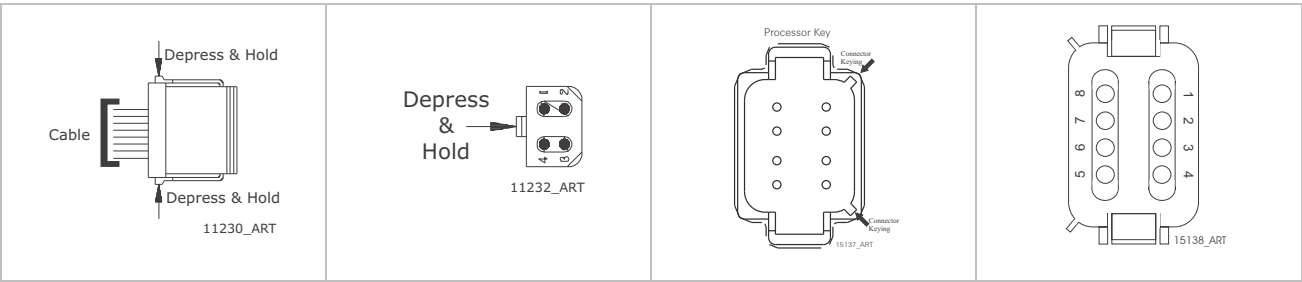

Figure 4-1: Harness Plug Keying
Prior to inserting the plug, pay close attention to the number of pins and the keying of the plug. The plug is designed to be inserted one way only, but can be forced together in the opposite orientation. Refer to Figure 4-1: Harness Plug Keying to insert plug correctly.
- When connecting the plugs, ensure that the locking mechanisms are depressed and held until the plug is fully connected or disconnected. Refer to Figure 4-1: Harness Plug Keying